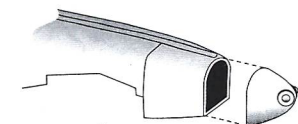

Figure 8
- The drogue chute door is a direct replacement for the kit part per Figure 8.